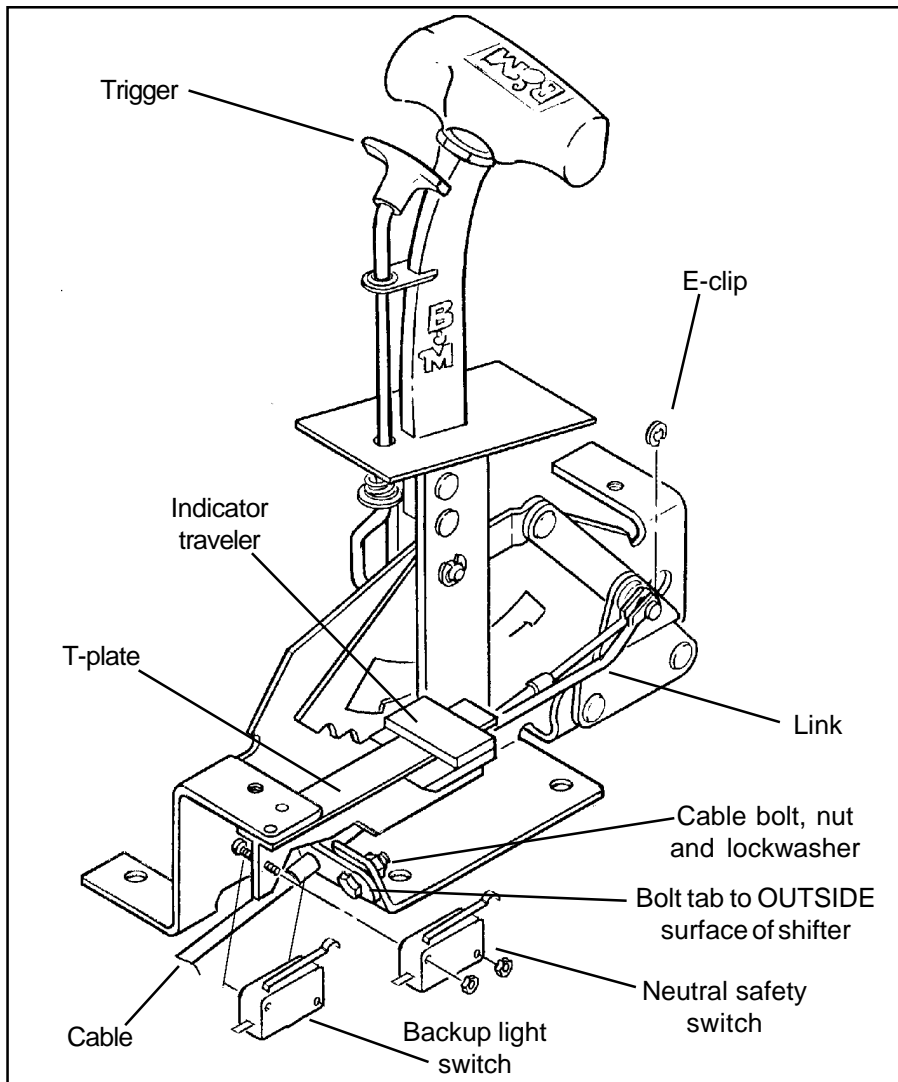

Figure 1
**STEP 5.** Install the plastic indicator traveler and link onto the T-plate track. The bent end of the link goes through the hole in the traveler from the left side of the shifter. Install the cable on the shifter as shown in **Figure 1.** The cable attachment tab must be bolted to the outside surface of the shifter base using a 1/4" X 1/2" hex bolt, a lock washer and a nut. Put the end of indicator link on the cable pin outside of the shifter cable. Install the e-clip to secure the cable and the indicator link to the cable pin.
**STEP 6.** Place the shifter in first gear ratchet mode (stick all the way back). Position the backup light switch on the inside of the T-plate and the neutral safety switch on the outside of the T-plate with the long fingers on the switches towards the plastic traveler using the forward pair of holes in the T-plate. Assemble the backup and neutral safety switches to the shifter using two #4-40 screws, nuts and lock washers, as shown in **Figure 1.** **Beware,** over tightening the switch attachment screws will crack the switch housings. Adjust the switches so that the neutral safety switch operates in Neutral and Park only and the backup light switch op-
'66-'68: The neutral safety switch will continue to function normally. It will not be necessary to hook up the neutral safety switch wires on the shifter. Disconnect the battery ground cable before wiring the backup light switch. Locate the original backup light switch on the steering column or the console shifter. Run these wires to the **INNER** switch on the shifter (**See Figure 1**). Reconnect the ground wire and check the light for proper operation. Adjust the switches on the shifter if required.